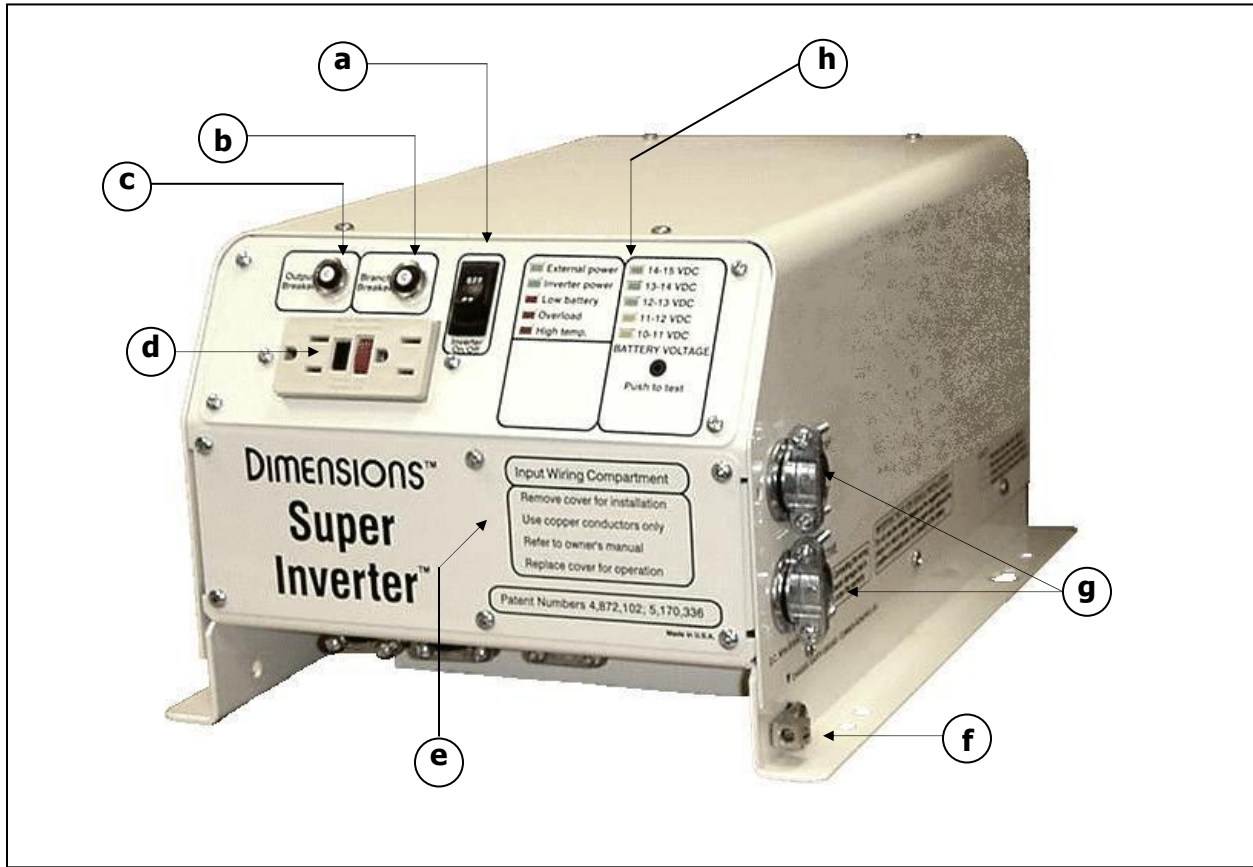

FIGURE 2: Chassis physical description
3.3.1 Grounding: Connect an 8 gauge copper wire between the bonding lug located at the right side of the chassis on the inverter and the earth grounding system of the vehicle chassis. See figure 2, item (f) page 7.